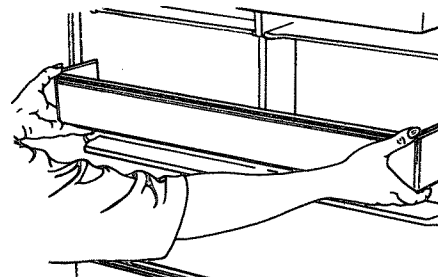

Figure 35
- Then pull out to remove. See Figure 35.